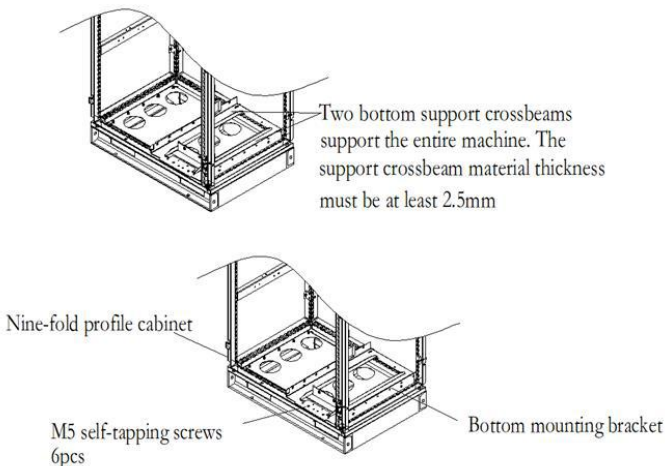

Figure 4-13 Bottom bracket mounting
2	Fix the bottom support crossbeams and mounting bracket in the cabinet. (See Figure 4-13.)
2. Fix the bottom support crossbeams and mounting bracket. (See Figure 4-13.)